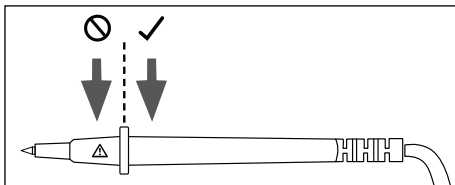

Fig. 3
- Only hold the test probes **6** in the grip area provided (see Fig. 3). The area with the warning sign **⚠** must not be touched, otherwise there is a danger of electric shock when measuring!